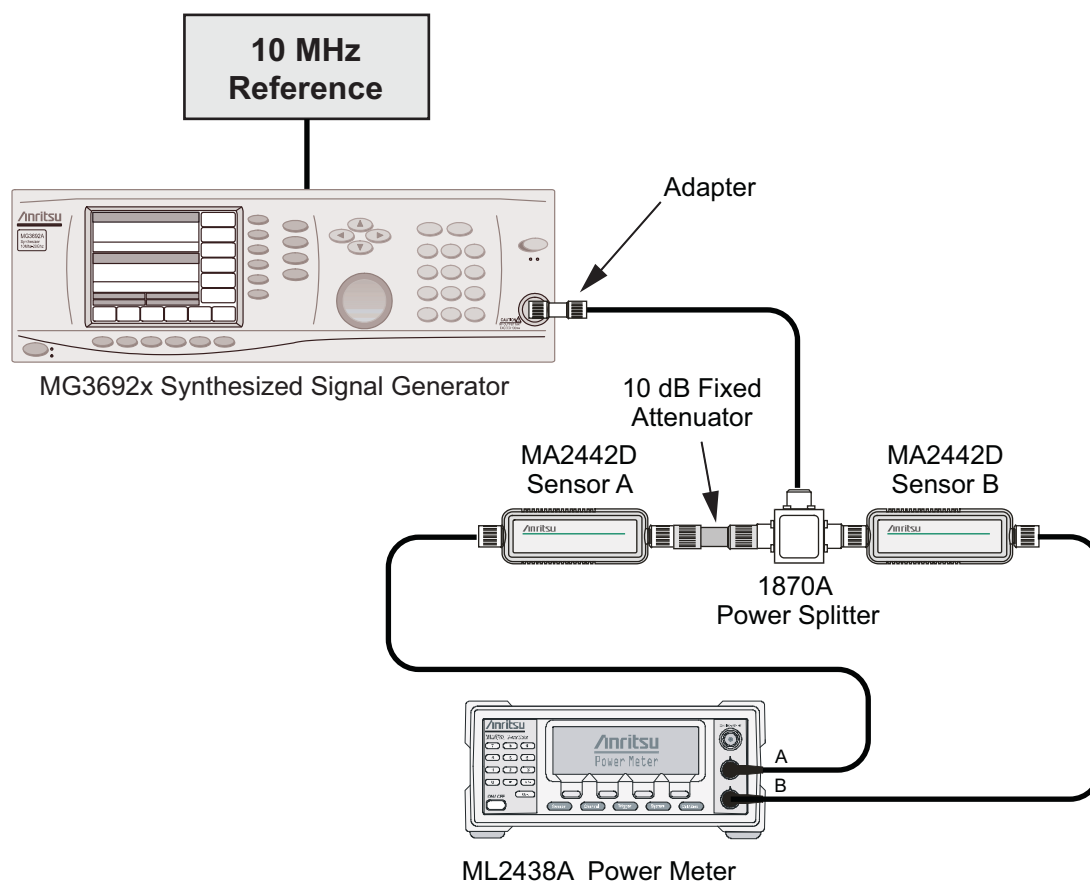

Figure 2-3. Fixed Level with Varying Frequency Setup
2. Connect the equipment as shown in Figure 2-3.